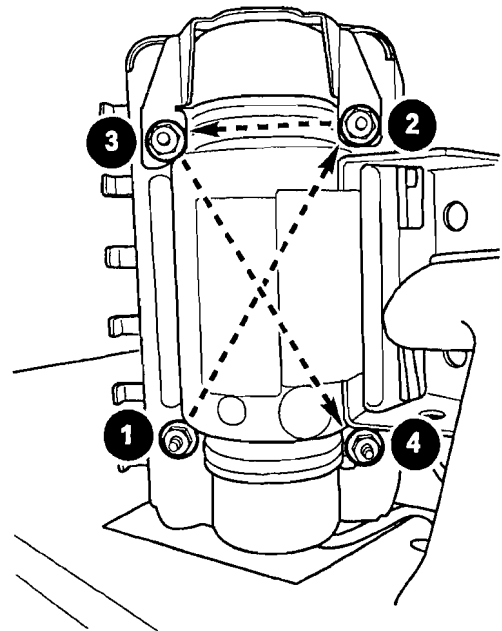

Figure 9
16. Install the airbag cushion retaining nuts. Tighten the nuts to 55 in. lbs (6 N·m) in the sequence shown in Figure 9.